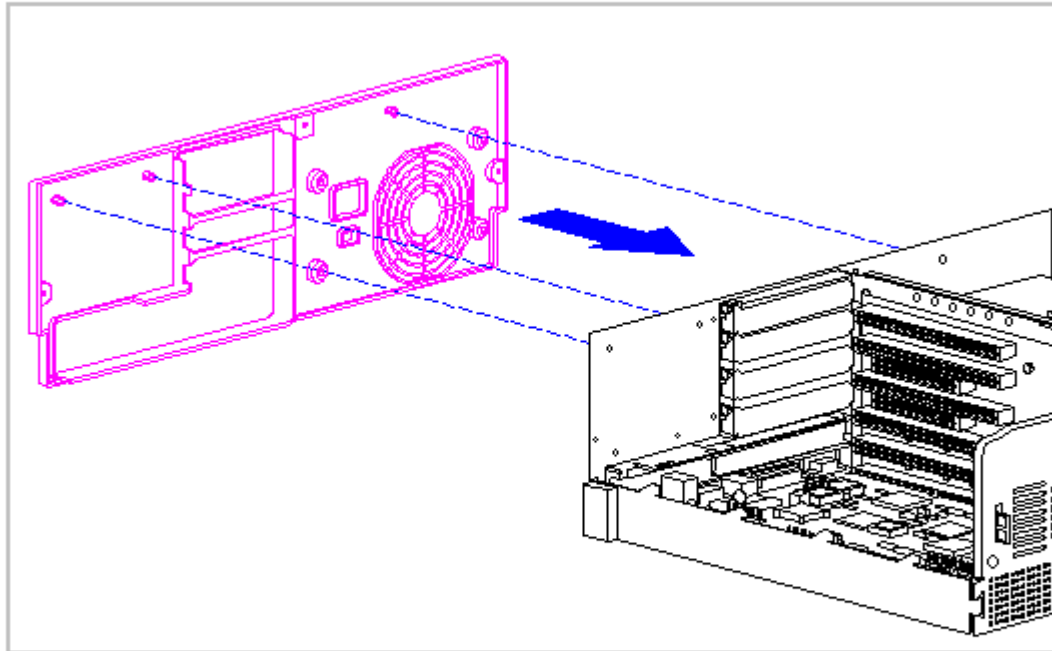

Figure 5-9. Installing the Rear Bezel
4. If the existing rear bezel is still in place, note the locations of the snap action tabs (Figure 5-9) and carefully pry the bezel away from the rear panel of the base pan.
5. To install a rear bezel, align the three snap tabs with their holes in the rear chassis panel and snap the bezel into place (Figure 5-9).